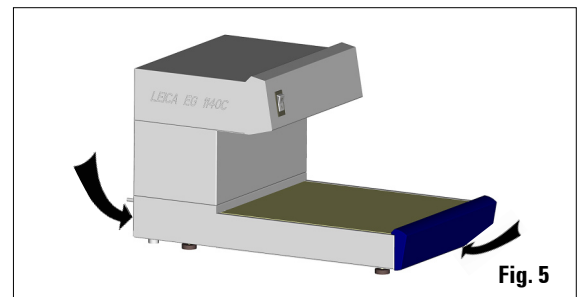

Fig. 5
To lift device, grasp at the front on the base plate and at the rear at the base of the housing (arrows in Fig. 5), lift out of the shaped pad (4) and place on a sturdy laboratory table.